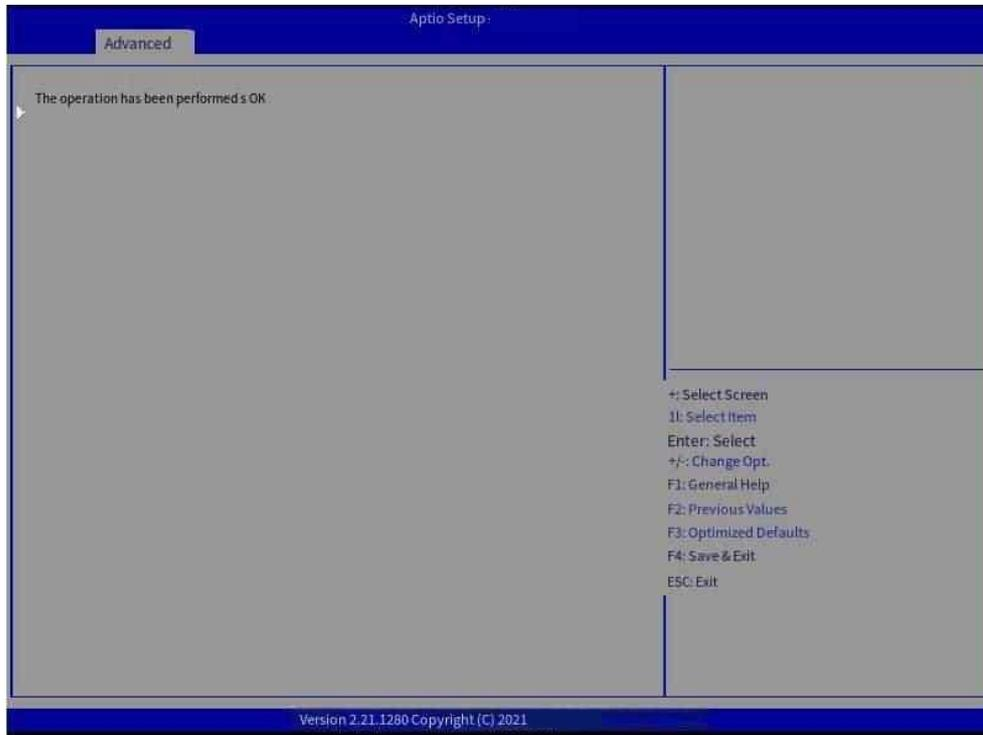

Figure 7-59 Click Ok
Step 4: Click Go->Ok to begin locating the hard drive (Figure 7-58, Figure 7-59);